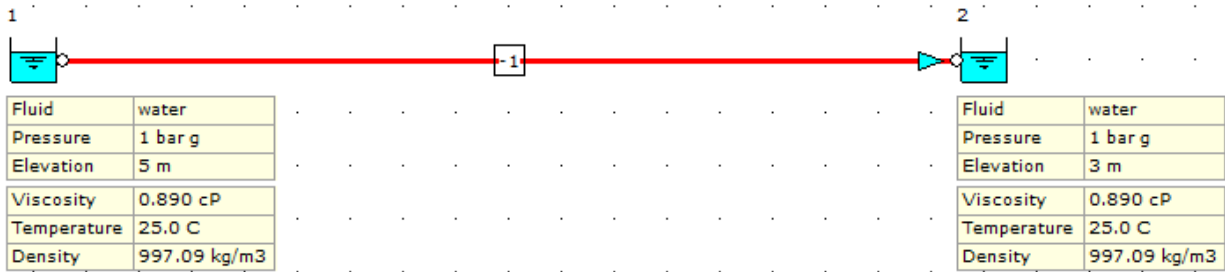

Figure 36: Hydraulic Model with Inlet and Outlet Boundary Properties.
43. The hydraulic model should now look like the screenshot given below (Figure 36).